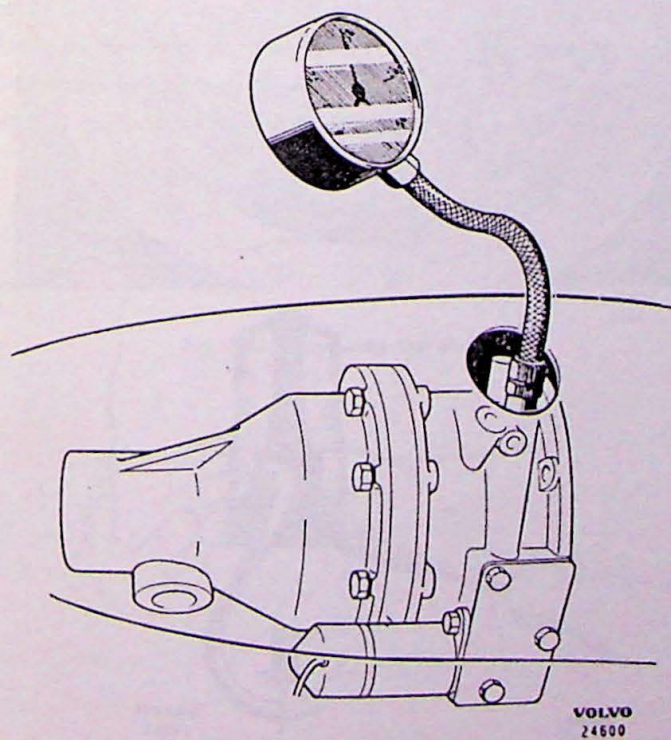

Fig. 3-37. Checking oil pressure with pressure gauge SVO 2415
2. Remove the plug over the control valve and connect oil pressure gauge SVO 2415, see Fig. 3-37.